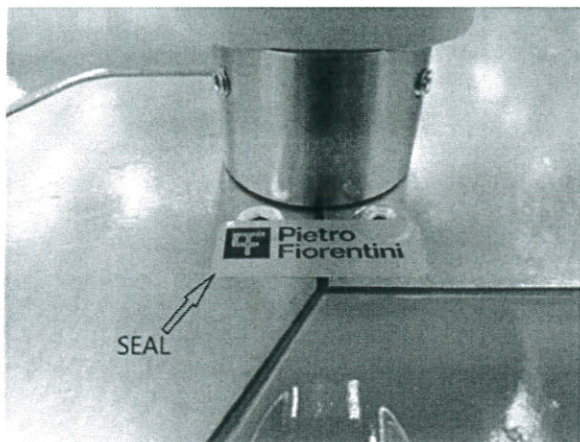

Figure 2-1: Meter body seal
**Sealing of Flowbody:** The Flowbody and access to the transducers is sealed by means of a seal wire through the cover bolts/ hexscrews as shown in Figure 2-1. Tampering with seal will invalidate the calibration.